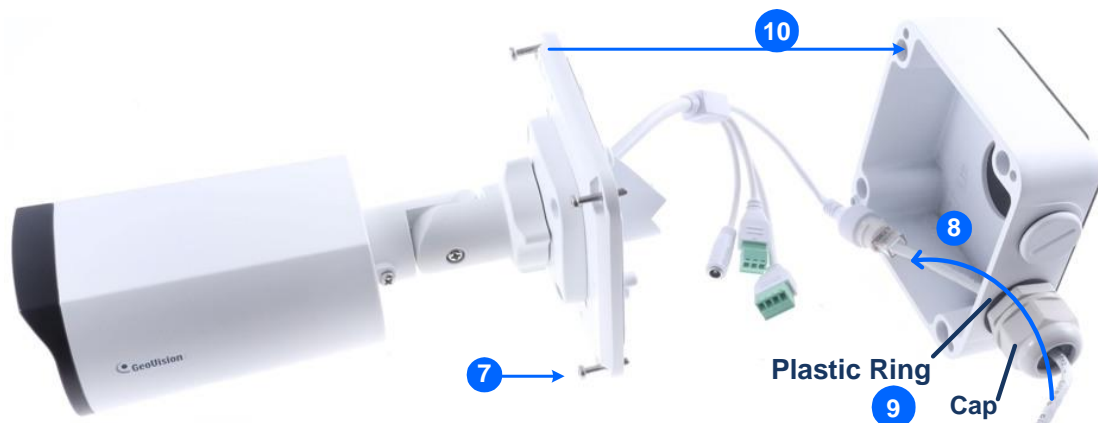

Figure 1-63
- Reattach the box cover to the power box, as shown in No. 7, *Figure 1-63*.
- Thread the Ethernet cable through the PG21 conduit connector and the power box as shown in No 8, *Figure 1-63*. Then connect the cable to the camera. To waterproof the cable, see 1.8 *Waterproofing the Cable*.
- Rotate the plastic ring to secure the conduit connector to the power box. Secure in the cap, as shown in No 9, *Figure 1-63*.
- Secure the box cover to the power box, as shown in No 10, *Figure 1-63*.
7. Thread the Ethernet cable through the center hole (proceed to Step 9) or through the PG21 conduit connector and the power box as shown in No 8, Figure 1-63 (proceed to Step 8).
8. Rotate the plastic ring to secure the conduit connector to the power box. Secure in the cap, as shown in No 9, Figure 1-63.